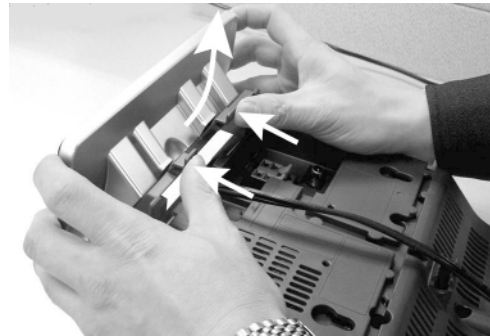

Figure 1
- 1) Press the 2 juts and pull out the Stand as shown in figure 1.